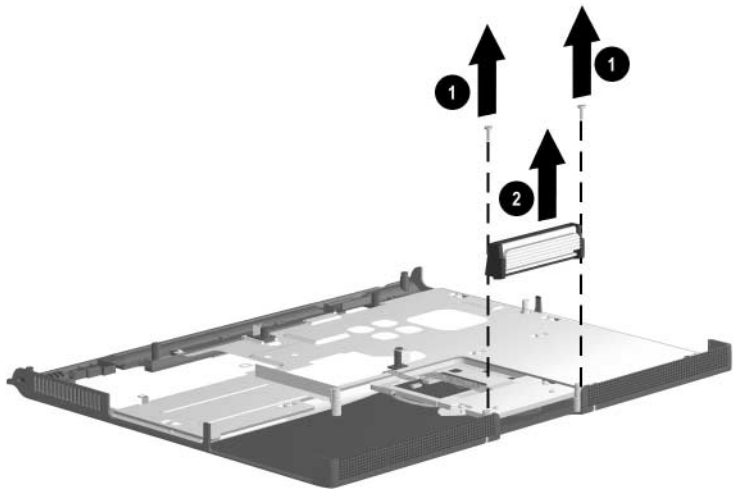

Figure 5-26. Removing the Display Release Assembly
3. Remove the two PM2.0 \times 4.0 screws ❶ that secure the display release assembly to the top cover (Figure 5-26).
4. Lift the display release assembly straight up ❷ and remove it from the top cover.